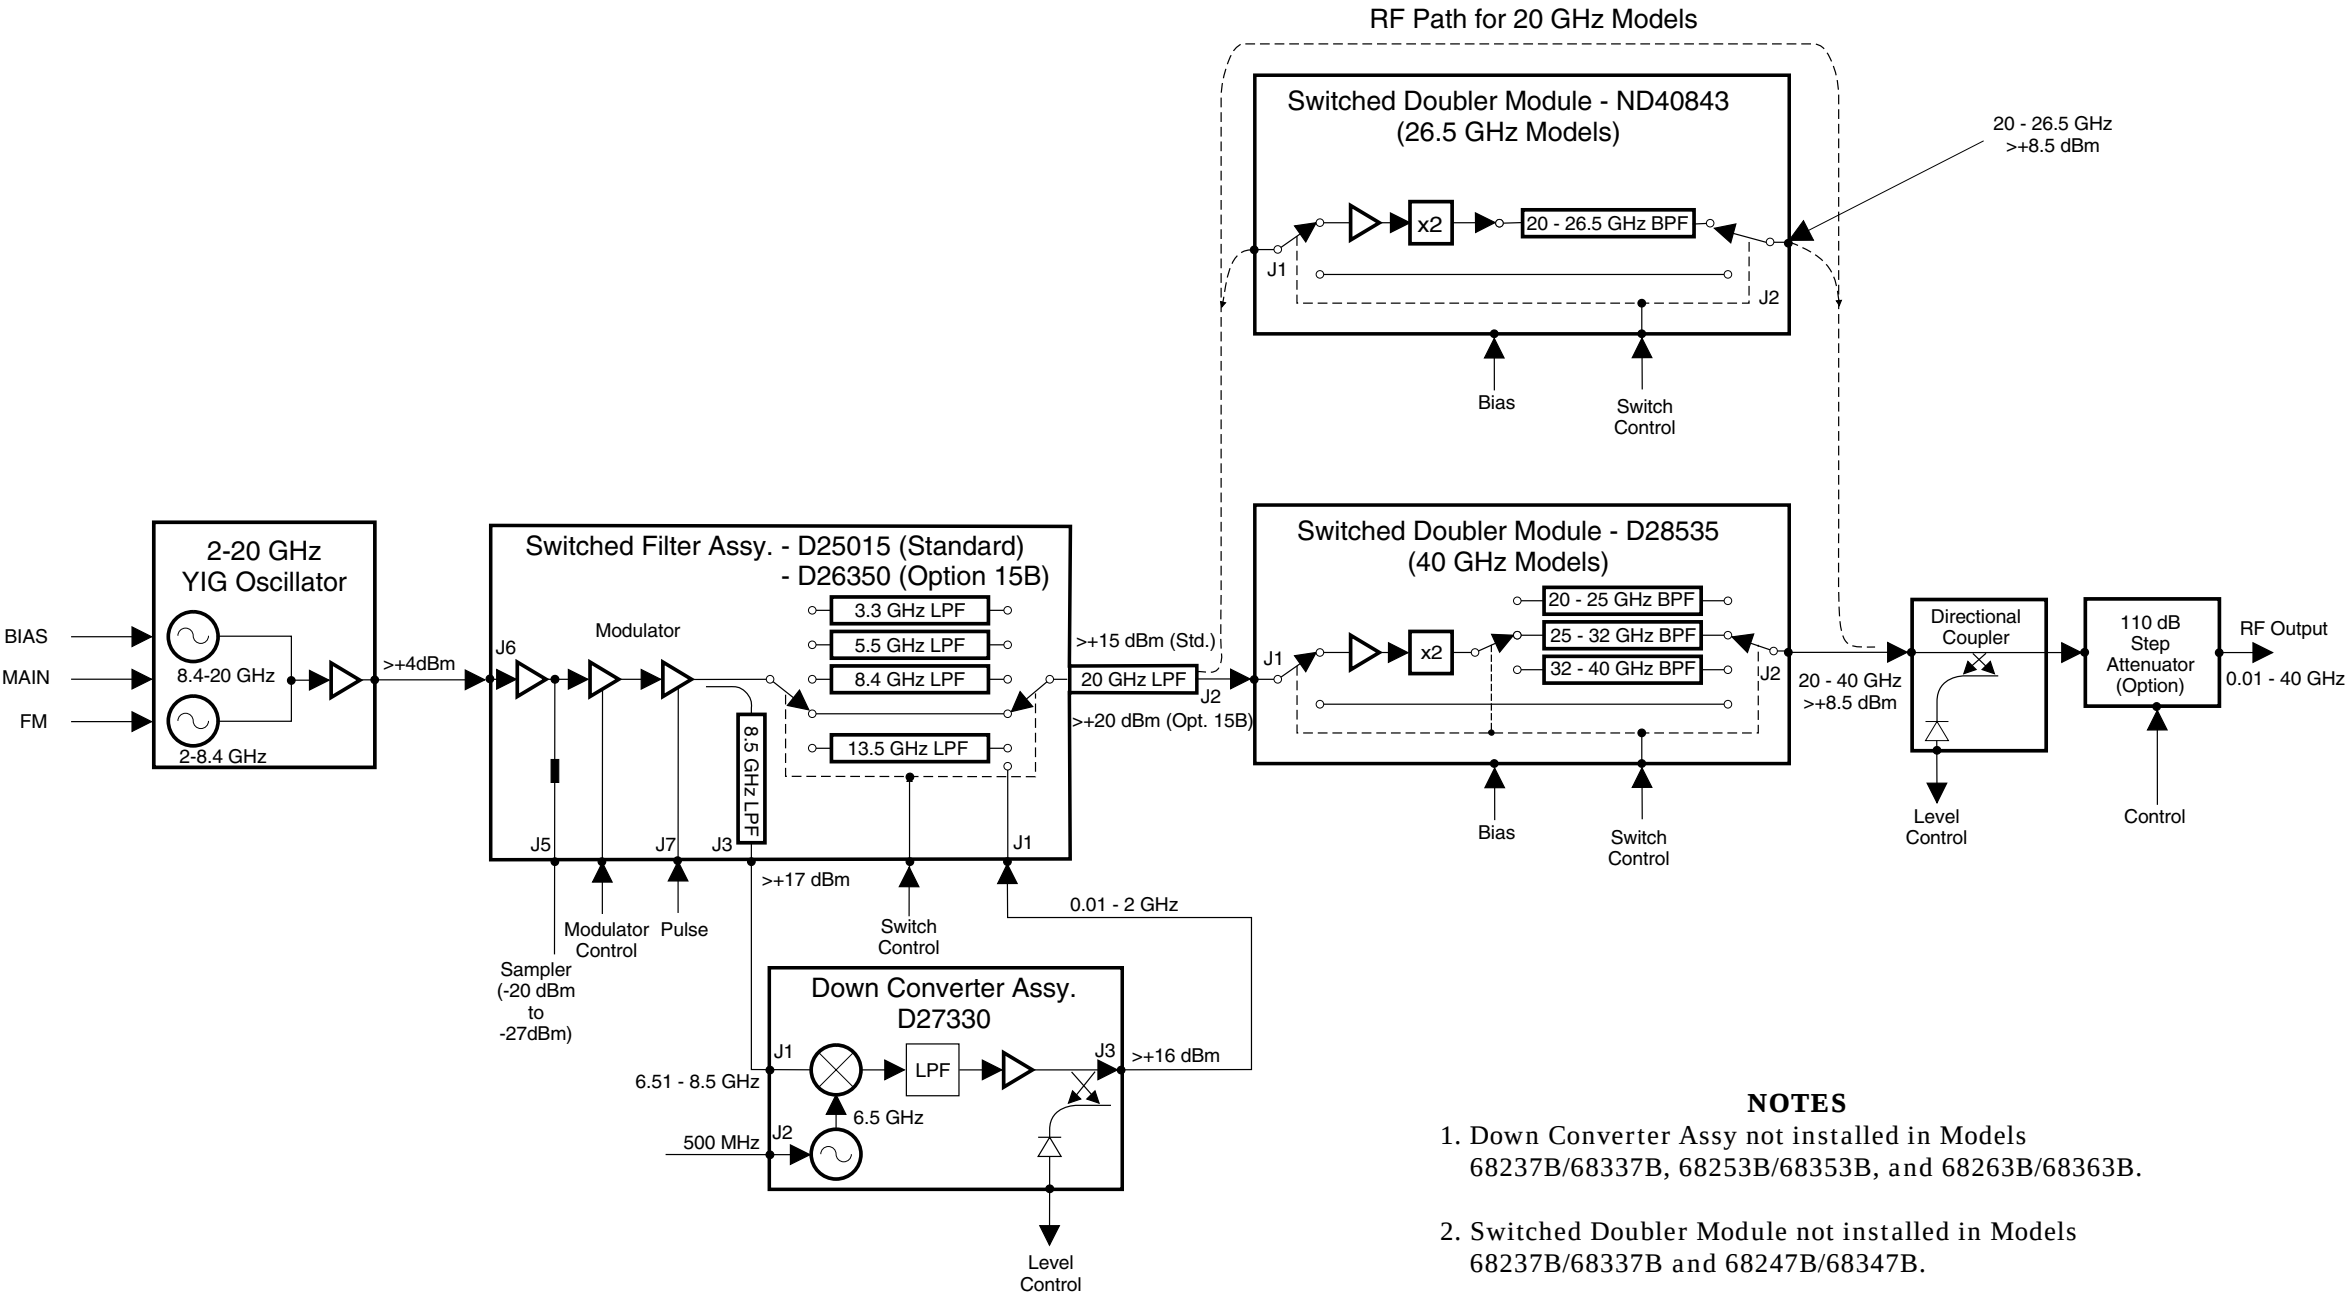

Figure 2-4. Block Diagram of the RF Deck Assembly for all ≤40 GHz Models (except 682X5B/683X5B Models)
- ❑ Figure 2-4, page 2-21, is a block diagram of the RF deck assembly for all ≤ 40 GHz models except for 682X5B/683X5B models.
The block diagram of the RF deck shown in Figure 2-4 (page 2-21) includes all of the common RF components found in the 682XXB/683XXB RF deck assemblies. Refer to this block diagram during the descriptions of RF deck operation presented in the following paragraphs.
The 0.01 to 2 GHz Down Converter assembly (Figures 2-4 and 2-5) contains a 6.5 GHz VCO that is phase-locked to the 500 MHz reference signal from the A3 Reference Loop PCB. The 6.5 GHz VCO's phase-lock condition is monitored by the CPU. The 6.5 GHz VCO is on at all times; however, the down converter amplifier is powered on by the A13 YIG Driver PCB only when the 0.01 to 2 GHz frequency range is selected.